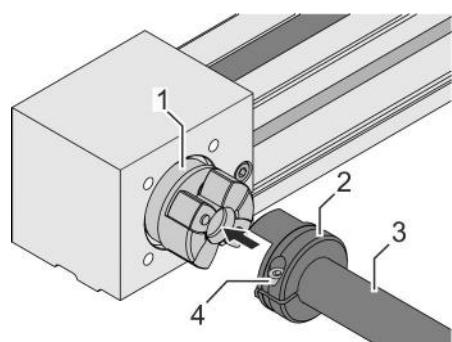

Fig. 23: Assembling the synchronisation shaft
4. ➔ Place the clamping hubs (Fig. 23/2) on both sides of the steel tube (Fig. 23/3).
5. ➔ Place the steel tube (Fig. 23/3) with the loose clamping hubs between the screw-in hubs of both linear units.
6. ➔ Slide clamping hubs (Fig. 23/2) into the screw-in hubs (Fig. 23/1).
7. ➔ Tighten the screw (Fig. 23/4) on each clamping hub.